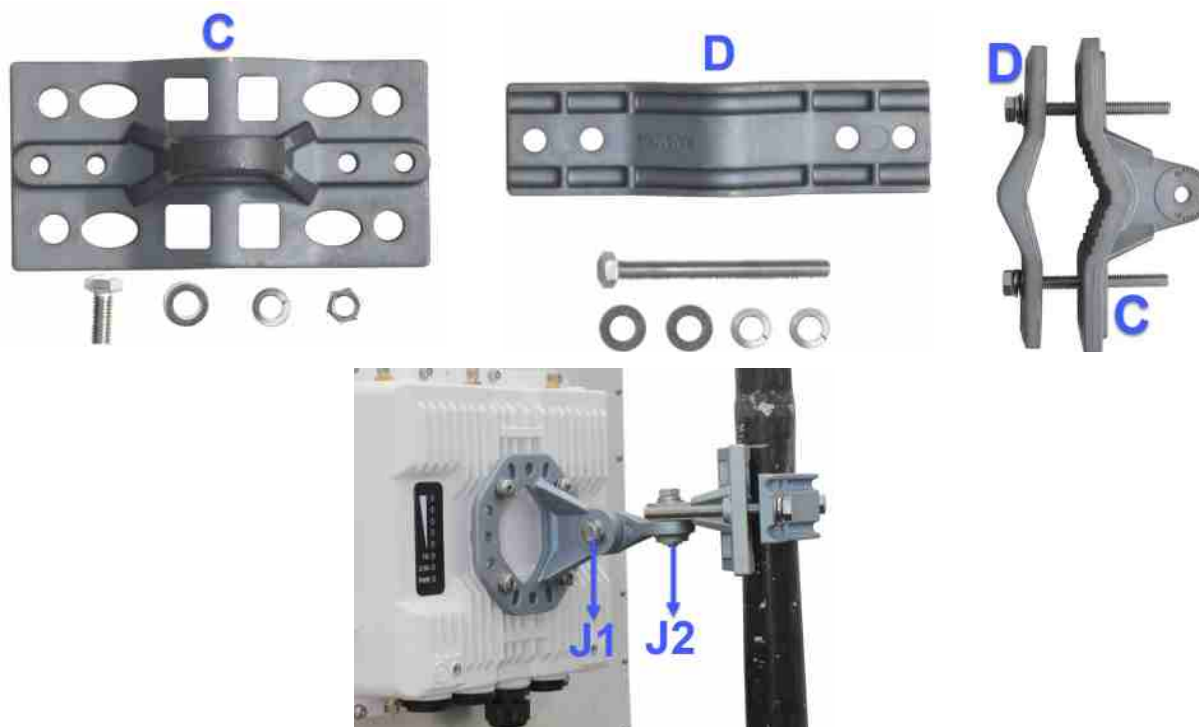

Figure 4-3 Pole Mounting
1. To pole-mount the device, insert the provided bolts through Bracket (D), mate with Bracket (C) around the pole, and secure with supplied washers torquing to 100 Lbf-in (115Kgf-cm). The supplied bolts (Hex. bolt 5/16" x 4" long) are designed for pole diameters from 32 to 89mm (1.25 to 3.5 inches).
2. Fix the fixed Extension Arm (B) to the Mounting Bracket (C) with the provided bolt, nut, and washers. Partially tighten the joints J1 and J2 to allow for alignment of the device.
- While installing the device, make sure that the device Ethernet Port-1 with cable installation (using cable gland) faces downward only as shown in Figure 4-3 below